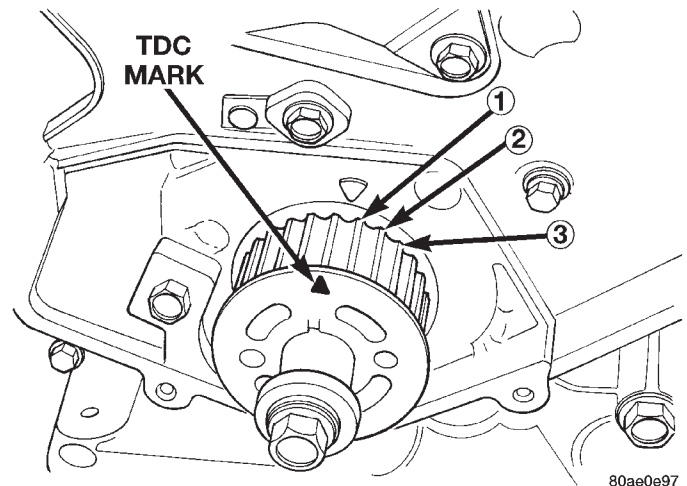

Fig. 80 Crankshaft Sprocket Timing
(1) Set crankshaft sprocket to TDC by aligning the sprocket with the arrow on the oil pump housing, then back off to 3 notches before TDC (Fig. 80).